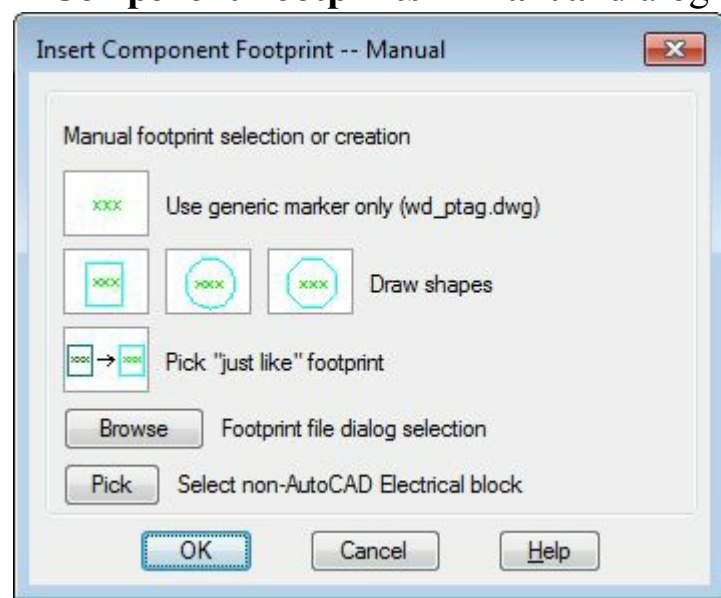

Figure-14. Insert Component Footprint Manual
- Click on the **Manual** tool from the **Insert Component Footprints** drop-down. The **Insert Component Footprints -- Manual** dialog box will be displayed; refer to Figure-14.